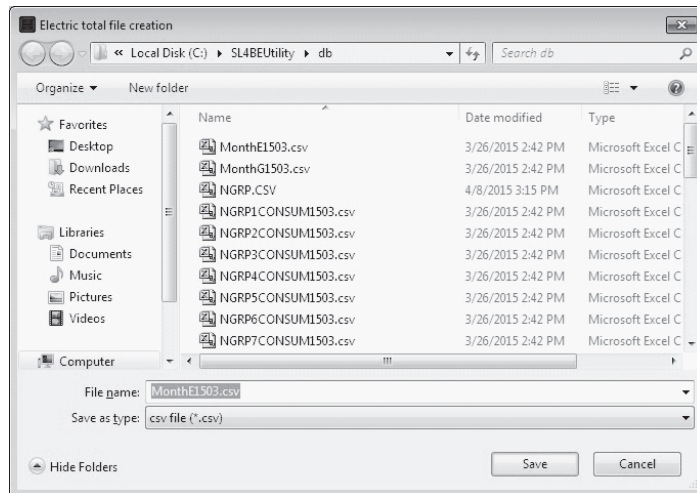

Fig.10-11 Input the file name dialog box
- a) When you click the check box “The electric energy consumption”, Fig.10-11 dialog box will appear. If you want to change the file name, the folder name and the drive name, select another drive name and the folder name, and type another file name that you want.